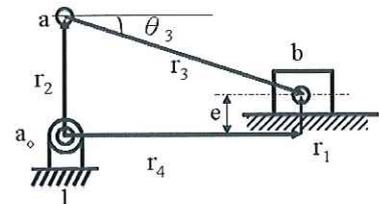

Fig. 2. Offset crank-slider
2. Figure 2 show a offset crank-slider. For the mechanism, if  $e=2\text{cm}$ ,  $r_2=6\text{cm}$ ,  $r_3=10\text{cm}$ , (a) write down the vector loop equation, (b) find the close form equation for  $r_4$ , (c) if  $\theta_2 = 90^\circ$  and  $\omega_2=2400\text{rpm}$ , please find  $r_4$ ,  $\theta_3$ ,  $V_4$ , and  $\omega_3$ . (20%)